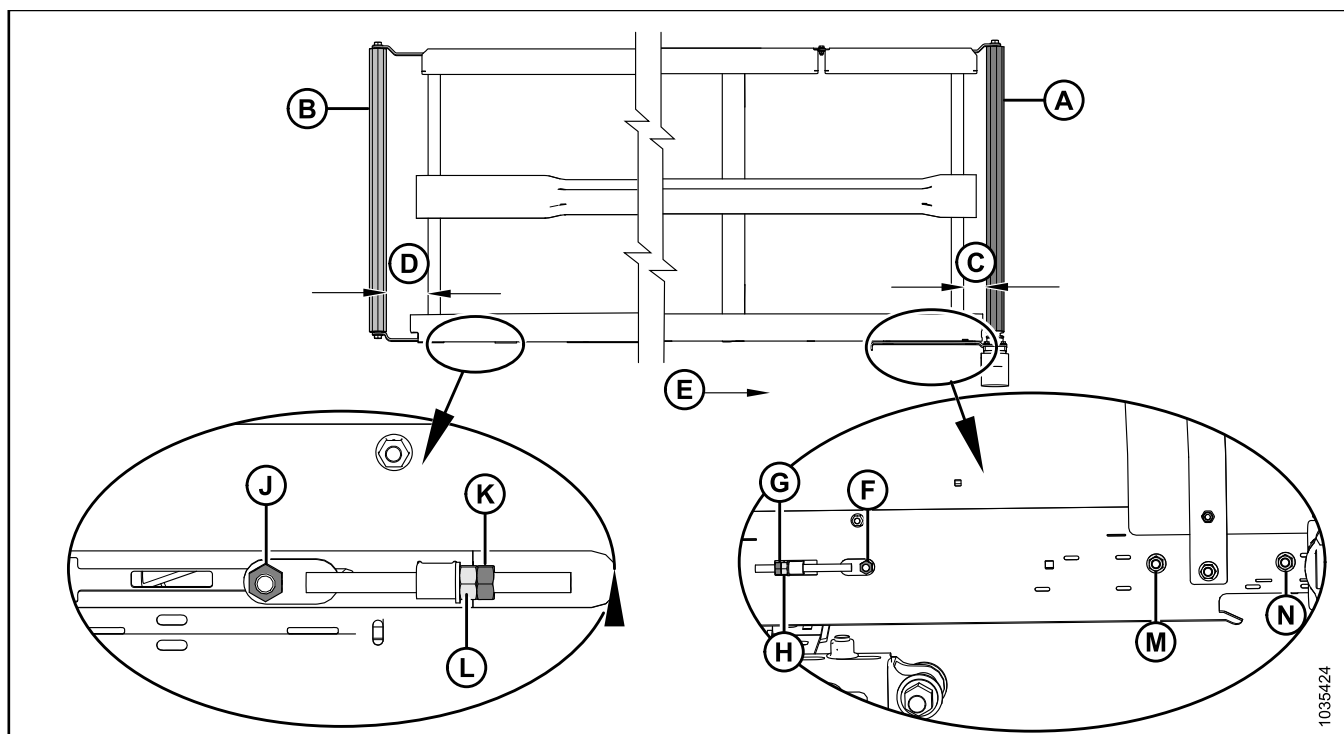

Figure 9.13: Draper Tracking Adjustments – Left Draper
2. Adjust drive roller (A) to change **C** (refer to Table 9.4, page 287 and Figure 9.13, page 287) as follows:
- a. Loosen nuts (F), (M), and (N), and jam nut (G).
- b. Turn adjuster nut (H).
- c. Tighten nuts (F), (M), and (N), and jam nut (G).
3. Adjust idler roller (B) to change **D** (refer to Table 9.4, page 287 and Figure 9.13, page 287) as follows:
- a. Loosen nut (J) and jam nut (K).
- b. Turn adjuster nut (L).